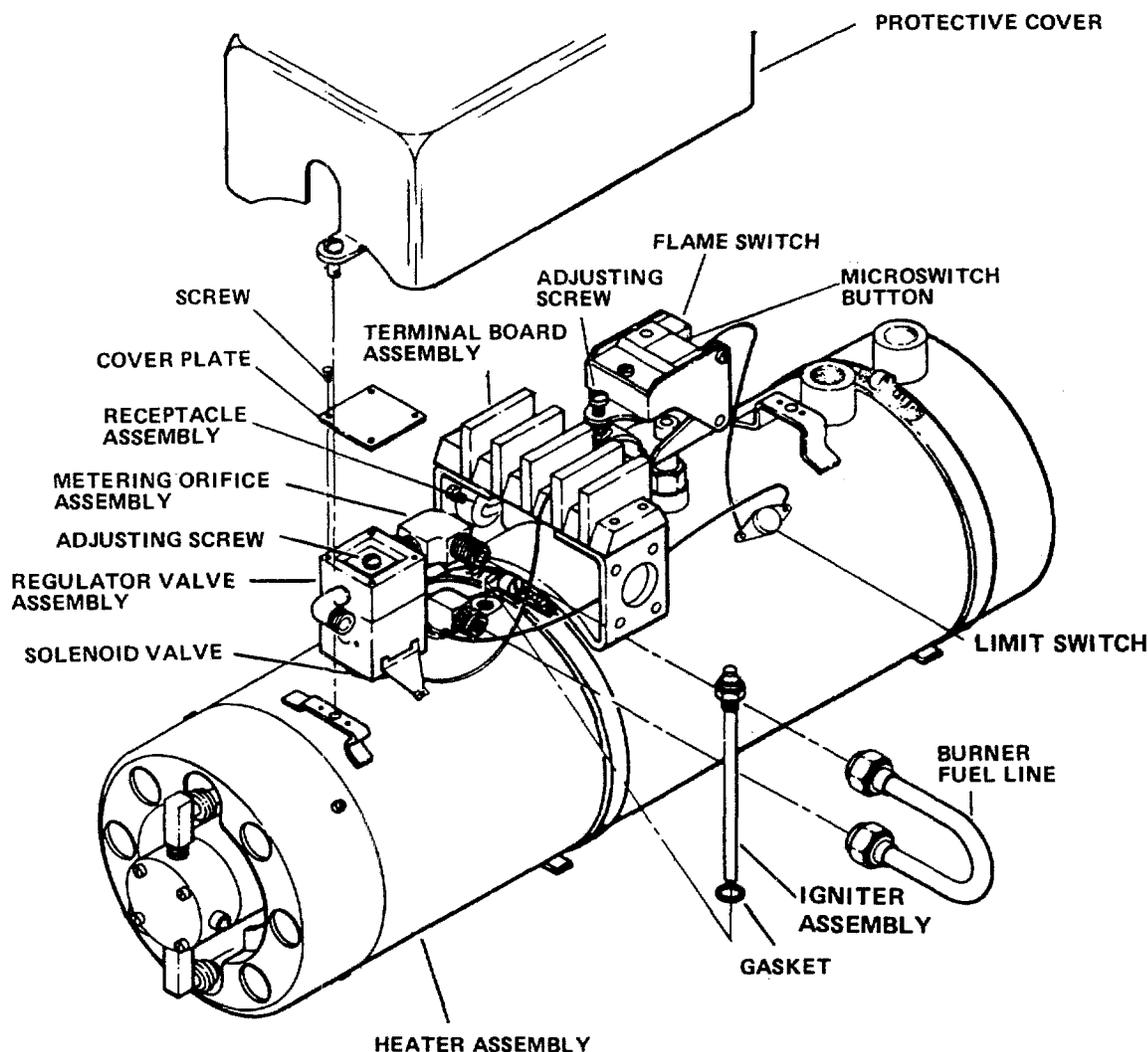

Figure 5-3. Fuel Burning Winterization Kit Heater Assembly, Maintenance
5-9. REGULATOR VALVE ASSEMBLY. Adjust the regulator valve assembly (see figure 5-3) as follows:
h. If flow is not within specified limits, rotate adjusting screw (figure 5-3) to obtain proper flow rate.
j. Install burner fuel line (figure 5-3).
5-10. TERMINAL BOARD. Inspect the terminal board (see figure 5-3) for cracks, carbon deposits on terminals, loose connections, or other obvious damage.
5-11. LIMIT SWITCH. The following paragraphs provide inspection and test procedures for the limit switch (see figure 5-3).
(1) Remove protective cover (figure 5-3) by loosening two captive screws.
(2) Tag and disconnect electrical leads to switch.
(3) Using a multimeter, check switch for continuity.
(4) Reconnect electrical leads to switch.
(5) Install protective cover by tightening two captive screws.
5-12. RECEPTACLE ASSEMBLY. The following paragraphs provide inspection, test, and replacement procedures for the receptacle assembly (figure 5-3)
5-14. FLAME SWITCH. The following paragraphs provide test and adjustment procedures for the flame switch (see figure 5-3).
(1) Remove protective cover (see figure 5-3) by loosening two captive screws.
(2) Rotate flame switch adjusting screw counterclockwise until heater motor starts.
(3) Rotate adjusting screw clockwise until motor stops.
(4) Give adjusting screw an additional 1/2 (180 degree) turn.
(5) Reinstall protective cover by tightening two captive screws.